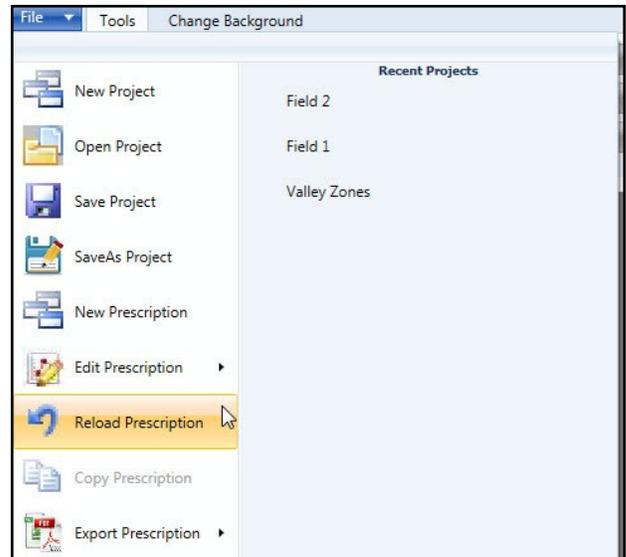

Figure 33-1 VRI Drop-down Menu Reload Prescription
1. Select **Reload Prescription** in the VRI drop-down menu. See Figure 33-1.